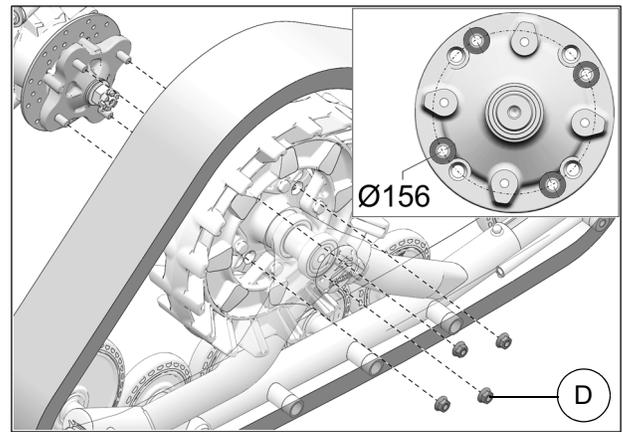

Fig. 21
- Secure undercarriage to front hub using the provided 3/8-24 lug nuts (**D**). Use bolt circle **Ø156mm**. See Fig. 21